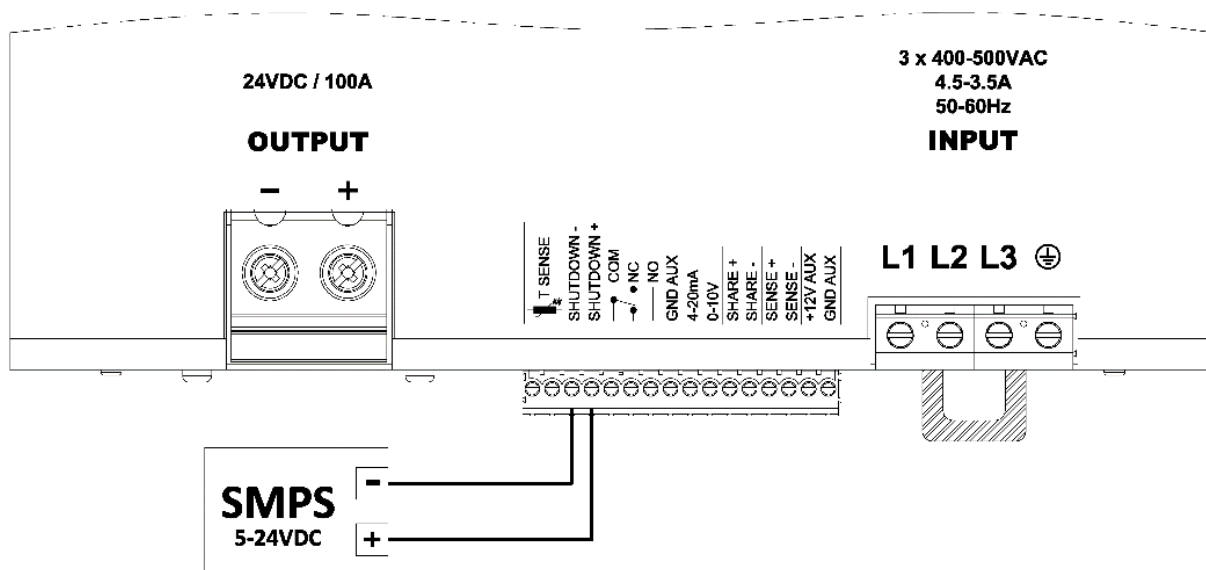

Figure 14: Remote shutdown input connection with external signal
1. **External signal:** when applying an external DC voltage as shown on Figure 14 from 5VDC to 24VDC to the SHUTDOWN inputs the CPSB3-2400 output will be turned ON or OFF depending on the programmed shutdown polarity (see §6.4.9).